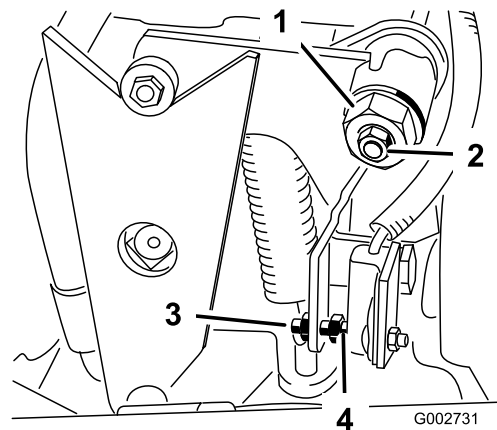

Figure 21
4. Loosen the locknut on the traction adjustment cam (Figure 21).
5. Start the engine and rotate the cam hex (Figure 21) in both directions to determine the mid position of the neutral span.
3. Adjust the screw until the air gap is .060 inches \pm .030 (Figure 21).